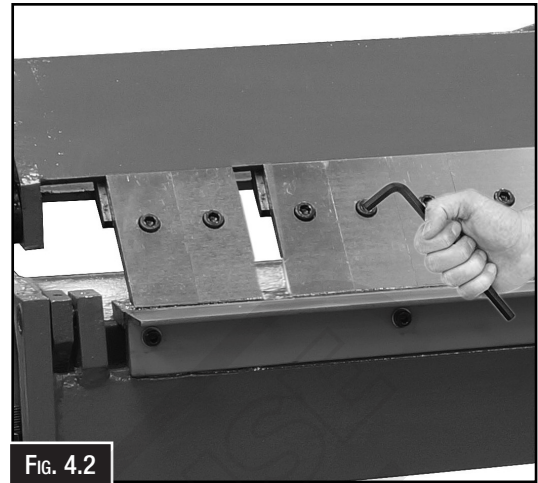

FIG. 4.2
1. On the fingers that need to be removed, loosen the cap screw. (Fig. 4.2)